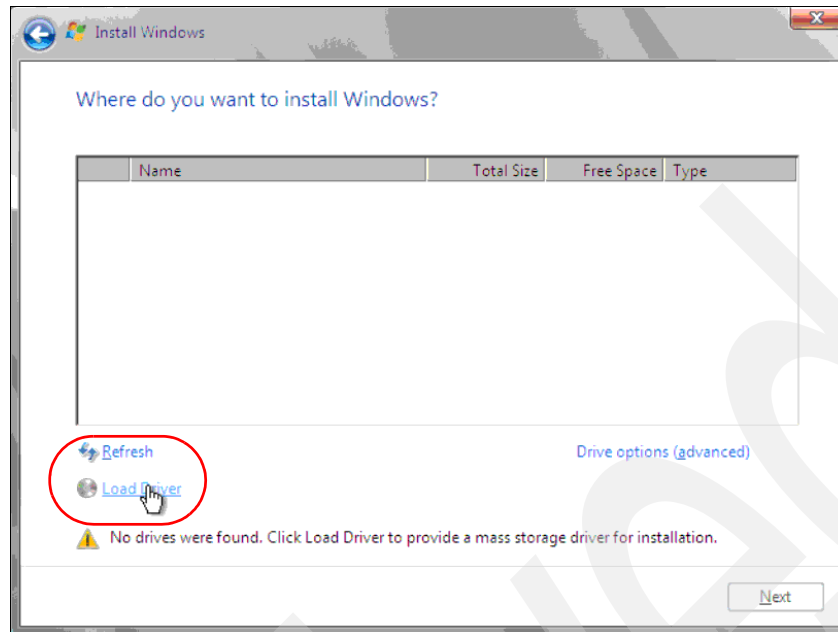

Figure 5-32 Windows 2008 setup - load HBA drivers
1. Depending on the FC HBA or iSCSI HBA card, the device driver might be already included in the Windows operating system. Loading a specific driver during the installation is not necessary. However, if it is necessary, you can use a floppy disk with the drivers to load them during the installation setup (Figure 5-32).